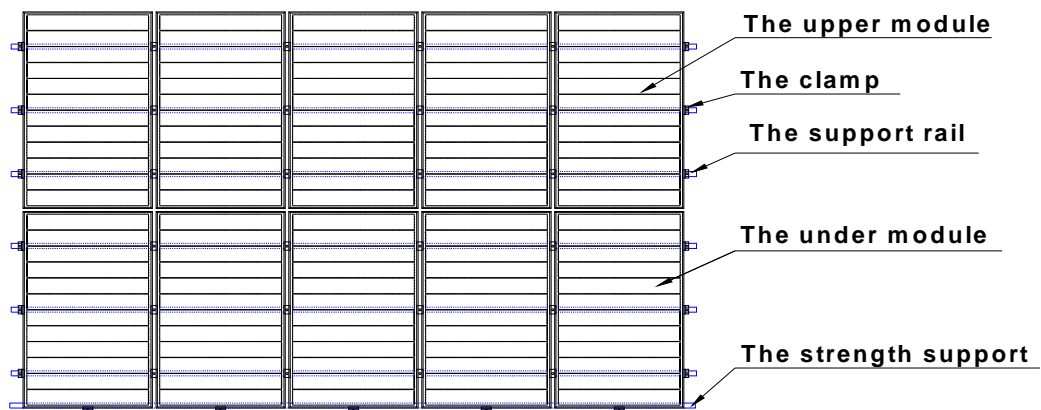

Figure 3 Schematic diagram of reinforcement mounting of module
6.2.1.3 For the roof system installed in the area with relatively heavy snowfall or snow cover in the meteorological records, the installer shall reinforce the supporting system at the lower frame of the module, in order to prevent the lower frame from being pressed and damaged by the falling snow or freezing of the melted snow. TW solar suggests selecting the support reinforcing mechanism shown in figure 3.